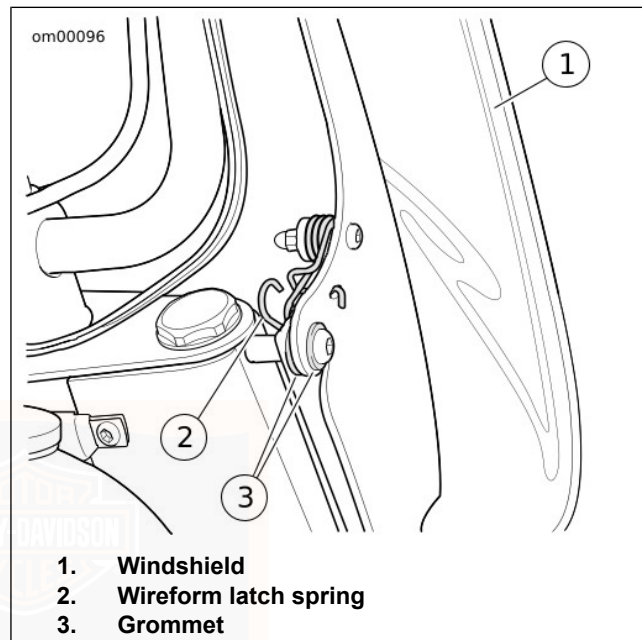

Figure 17. Windshield Assembly
1. See Figure 17. Insert your fingers into the wireform latch springs at either side of the windshield and move the TOP of the windshield assembly forward, until the TOP bracket notches slide away from the grommets.
1. See Figure 17. Insert your fingers into the wireform latch springs at either side of the windshield and slide the BOTTOM windshield bracket notches onto the bottom grommets.